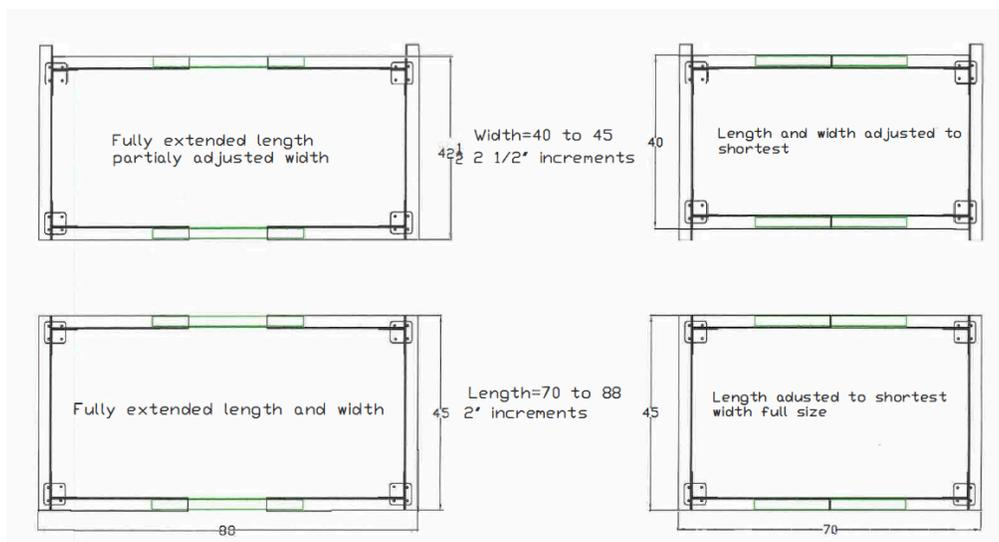

Figure 2. Dolly Options
Step 2: Measure your camper basement to determine which orientation you need. The width of the dolly can be adjusted from 40 to 45 inches with increments every 2.5 inches. The length can be adjusted from 70-88 inches with 2-inch increments (Figure 2). It is ok for the rear of the camper to extend past the dolly.